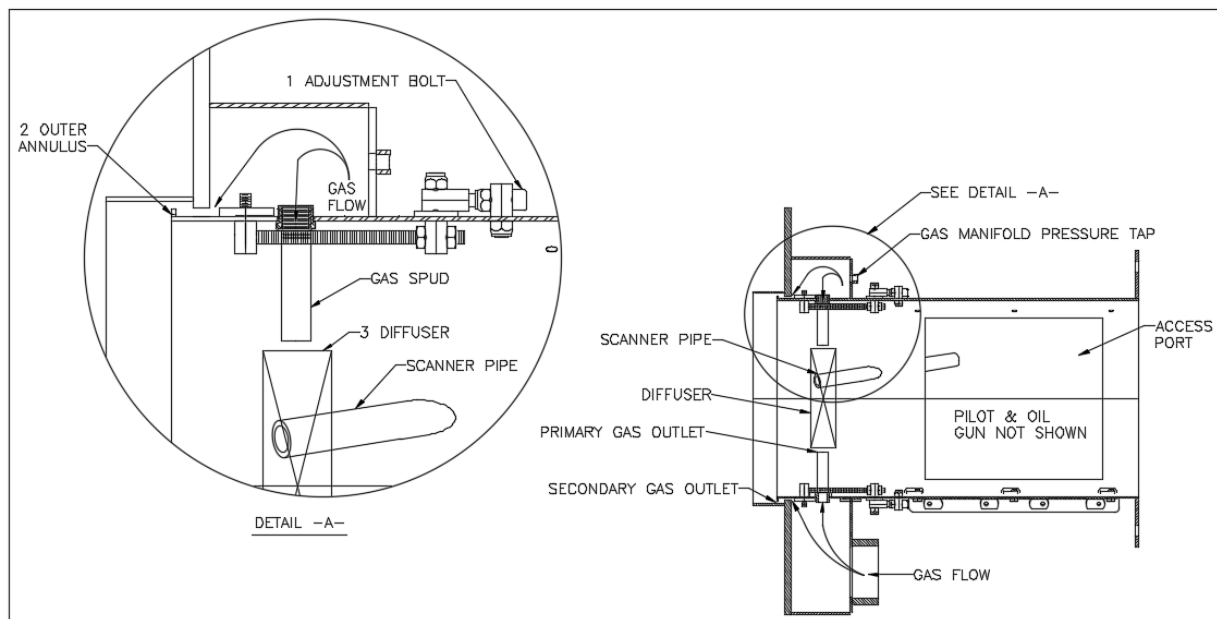

Figure 8: Burner Head Adjustment Details
- 3.2.4 Also, refer to Figure 8 for burner head adjustment details. As shown, there are four adjusting rods located on the outside of the blast tube. These rods can be adjusted to vary the gas ratio between the diffuser and outer gas annulus. Turning the bolts (Item 1 in Fig 8) in a clockwise direction will increase the gas flow to the outer gas annulus (Item 2 Fig 8). The normal setting as shipped from the factory is 1 ½ turns back (counter-clockwise) from the full closed, full forward position. The gas distribution may be changed to improve overall performance of the burner on individual boiler/heat exchangers. Avoid excessive opening (counter-clockwise) as this may lead to loss of flame retention. All adjustments should be made at ¼ turn increments to avoid binding. Also, a ¼ turn adjustment is a large adjustment. Go slowly to avoid over-adjusting the desired setting. After the burner is mounted and all wiring and piping has been completed, tested, and determined to be correct, the following procedures are recommended.
- 3.3.5 Close main checking and pilot gas cocks. Install one gas pressure gauge to read burner firing manifold pressure (use 0-36" W.C. gauge or a manometer). See Figure 3 and Figure 8 for pressure sensing locations. Install a second gas pressure gauge to read gas supply pressure between the main gas cock and the inlet to the main gas pressure regulator (use a 0-5 psi gauge or as appropriate). If there is no tapping in this location, install a tee at the point where the pilot gas supply is connected to the main gas line. Slowly open the main gas cock in order to determine that the incoming gas pressure is within the specified limits of the main and pilot gas pressure regulators, automatic fuel valves and gas pressure switches.